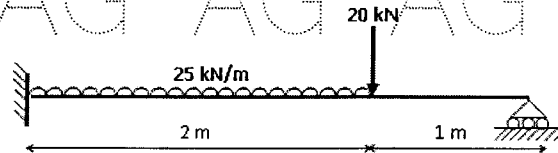

Figure: 4
2. Analyse a propped cantilever beam shown in figure 4 and draw the shear force and bending moment diagrams. [10]